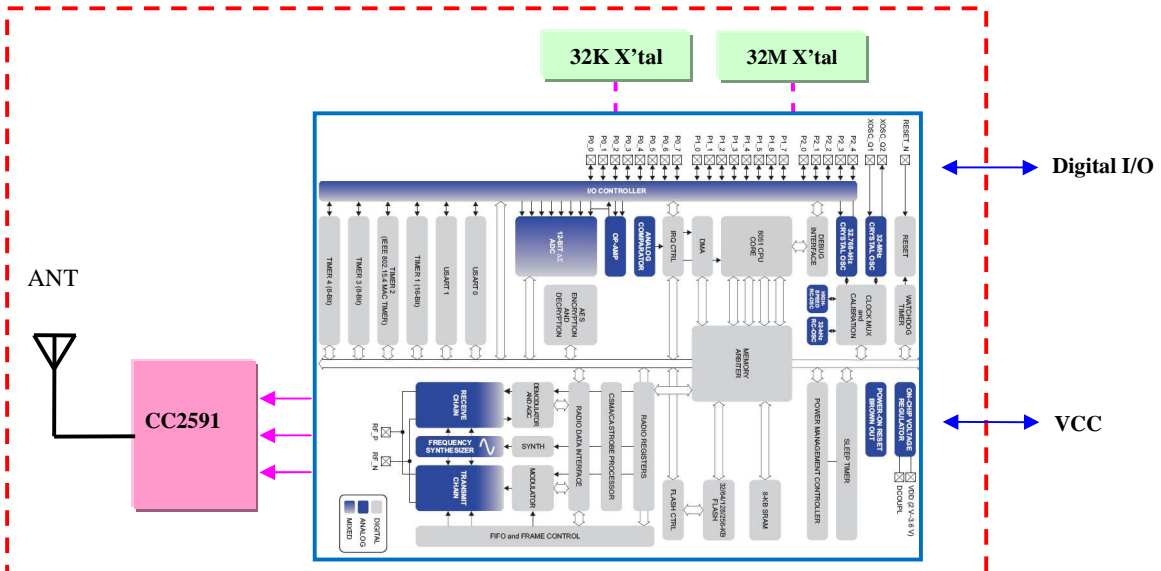

Figure 3-2: DFZM-TS21x Block Diagram
- The high power module option has a capability of +18.5dBm output power at the antenna (see Figure 3-2).